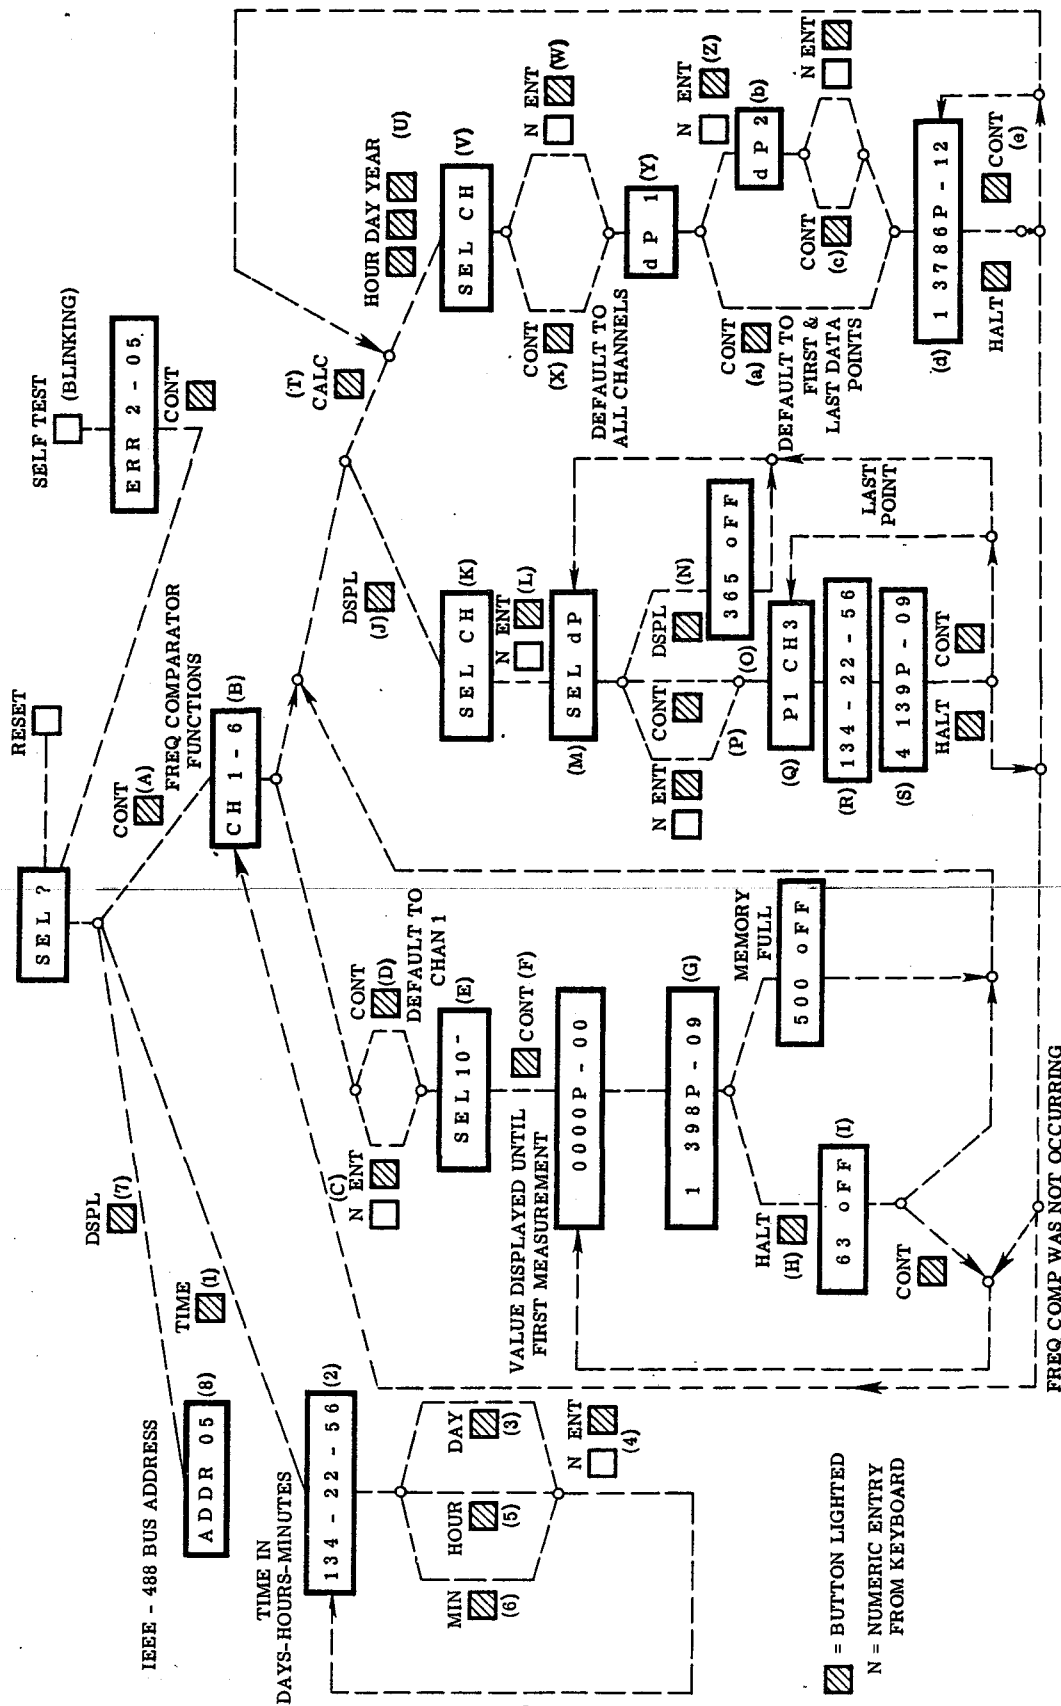

Figure 3.2 Operational Flow Diagram
The following paragraphs and Figure 3.2 are the operating instructions for the Frequency Comparator. Figures in () refer to Figure 3.2 Operational Flow Diagram. Specifically, these instructions tell the operator how to perform frequency error measurements, display measurements from memory, and perform drift calculations. Only the lighted pushbuttons can be used during a routine. CLR is for display clearing only.
- E. Press CONT (D) and SEL 10^{-7} should be displayed (E). Select the desired frequency resolution with the RANGE switch on the AS210-02 Frequency Comparator module.
- F. Press CONT (F). The frequency offset measurement routine now proceeds. 0000P-00 will be displayed until the first measurement is made. Thereafter, the channel number and frequency offset (error) will be displayed for each measurement as it is made until 500 measurements have been taken. A display of 1 398P-09 as shown in Figure 3.2 (G) indicates a frequency offset of 398×10^{-9} on channel 1. When 500 measurements have been completed without interruption, the program will halt automatically and 500 oFF will be displayed, indicating that 500 data points have been taken and the program is in an OFF condition. The measurement cycle can also be stopped at any time with the HALT (H) function button. The data point number and oFF will be displayed (I). Measurement can be resumed by pressing CONT.